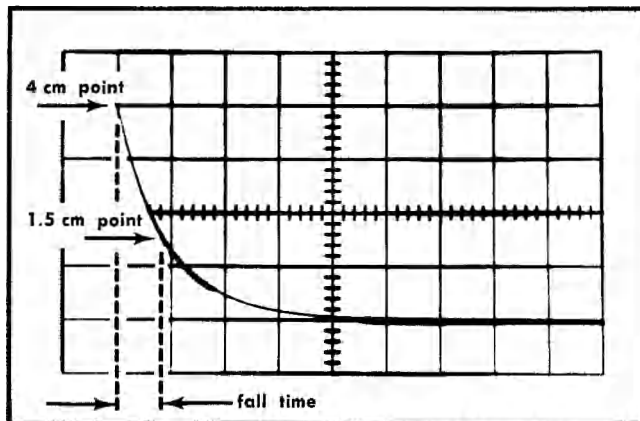

Fig. 6-8. Measuring AC coupled low-frequency response using an RC curve.
e. Turn the test oscilloscope Intensity control counter-clockwise to reduce the intensity to normal brilliance to avoid burning the CRT. The display obtained should be a falling RC curve as shown in Fig. 6-8.
4 cm to 1.5 cm (see Fig. 6-8). It should be more time than 0.008 sec (less than 2 hertz).